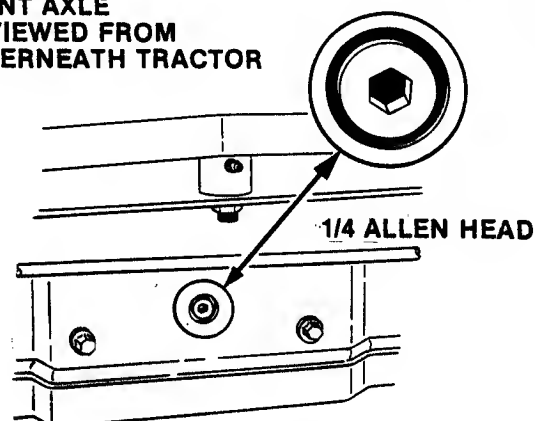

FIG. 15 - ENGINE OIL DRAIN LOCATION
- **CHANGE OIL IN ENGINE CRANKCASE** with oil of weight and grade specified in engine owner's manual. See FIG. 15.